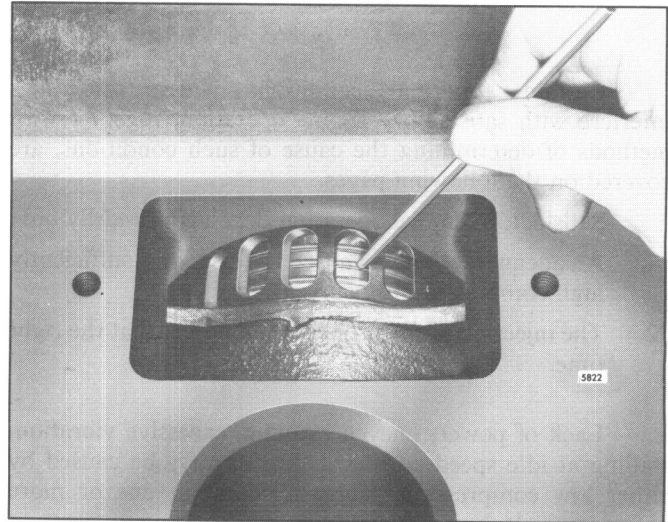

Fig. 2 – Inspecting Piston Rings
- A. Piston rings may be stuck or broken. To determine the condition of the rings, remove the air box cover and inspect them by pressing on the rings with a blunt tool (Fig. 2). A broken or stuck ring will not have a “spring-like” action.